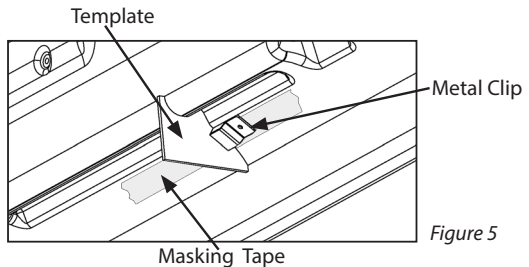

Figure 5
4. Place Metal Clip inside template and hold up to the side of the Baby Pod shell, ensuring clip is parallel to the contours of the Baby Pod. (See figure 5)